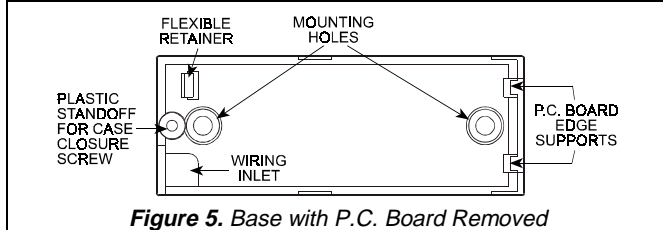

Figure 5. Base with P.C. Board Removed
- Hold the base against the mounting surface and mark the drilling points through the mounting holes (Fig. 5).